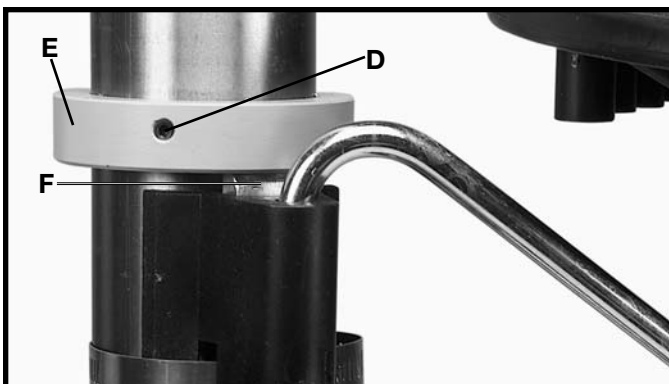

Fig. 11
7. Re-assemble ring (E) Fig. 11, which was removed in **STEP 1. IMPORTANT:** Bottom of ring (E) **MUST NOT** be pushed all the way down onto top of raising rack (F). **MAKE SURE** top of raising rack (F) is under bottom of ring (E) and that there is enough clearance to allow rack (F) to rotate around the column. **THEN TIGHTEN SET SCREW (D).**